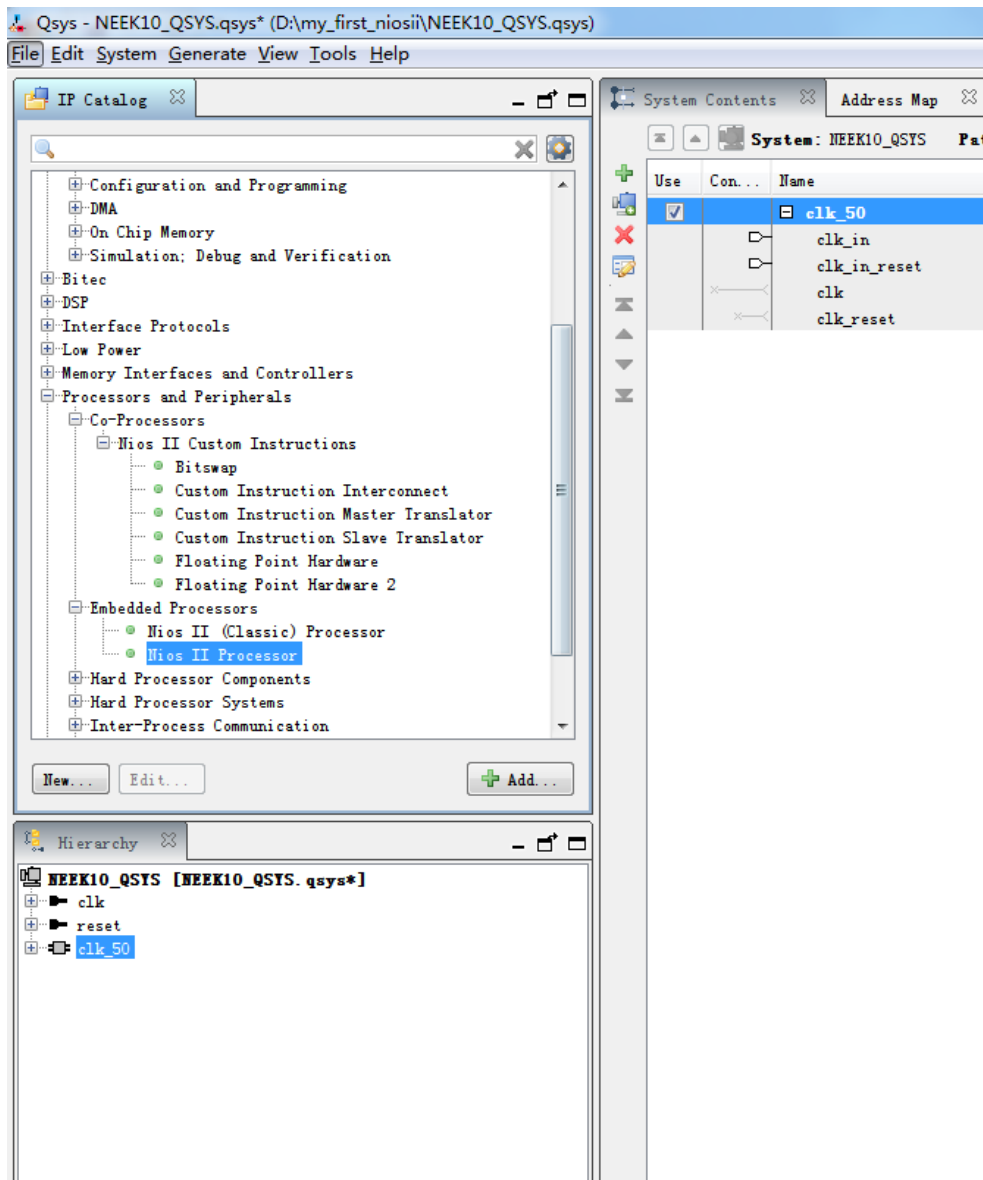
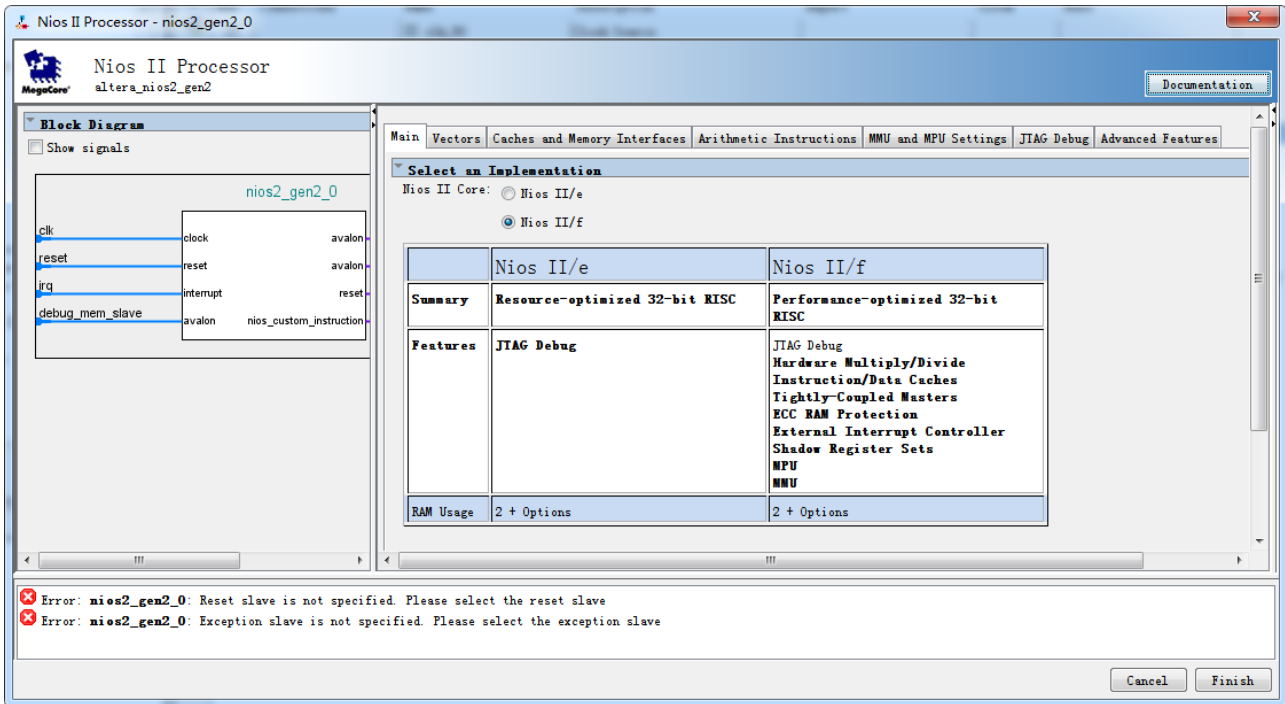

Figure 1-14 Add Nios II Processor
Figure 1-15 Settings of Nios II Processor
8. Choose **Library -> Processors and Peripherals- > Embedded Processors -> Nios II Processor** to add a Nios II processor into the system, as shown in **Figure 1-14** and **Figure 1-15**.